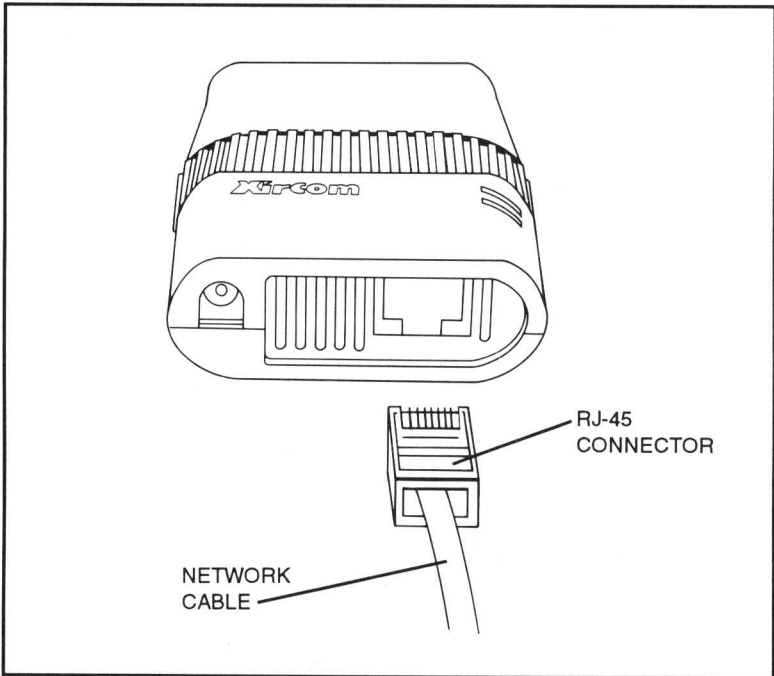

Figure 4. Attaching Twisted Pair Cabling to Model PE2-10BT
1. Plug one end of the modular data cable into the mating connector on the Pocket Ethernet Adapter II, shown in Figure 4. (This is an RJ-45 connector which looks like a large telephone jack connector.)